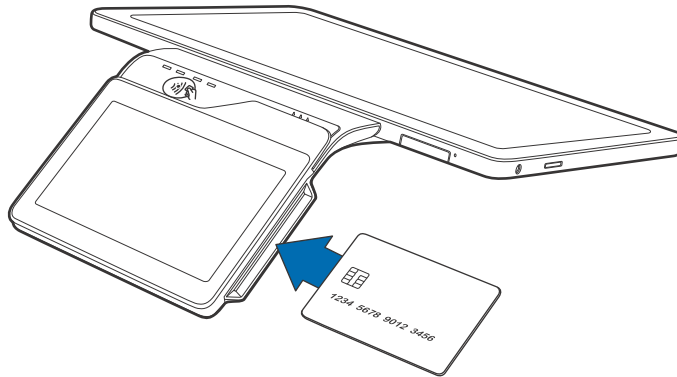

Figure 17 Inserting a Smart Card
- 1 Position a smart card with the contacts facing upward (see Figure 17).